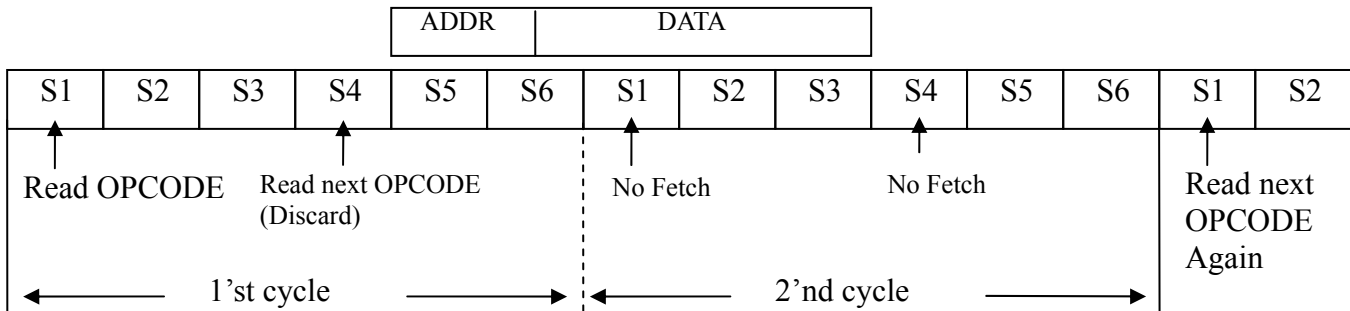

Figure 13 Timing of various instructions
The MOVX instructions take two machine cycles to execute. No program fetch is generated during the second cycle of a MOVX instruction. This is the only time program fetches are skipped. The fetch/execute sequence for MOVX instructions is shown in FIGURE 13 (D)